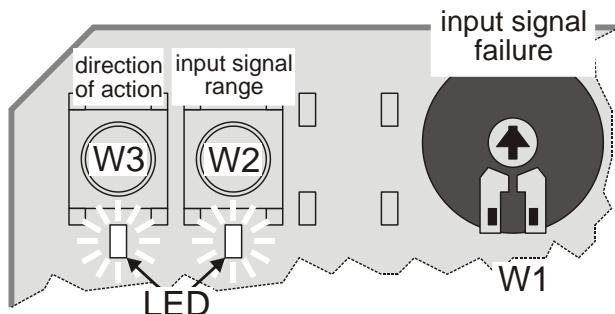

Fig. 1. Pushbuttons and potentiometer (default positions)
\* Factory setting; can be reversed by pressing the pushbutton (W3) located on the PCB (see Fig. 1).
The direction of action can be reversed by pressing the left-hand pushbutton (W3) located on the printed circuit board (see Fig. 1). If the corresponding LED is lit, this indicates that the actuator stem will retract at a control signal of 0(2) Vdc (factory setting); if it is dark, the actuator stem will extend at a control signal of 0(2) Vdc.
The range of the analog input signal Y can be changed by pressing the right-hand pushbutton (W2) located on the printed circuit board (see Fig. 1). If the corresponding LED is lit, this indicates that the actuator is set for 0...10 V operation (factory setting); if it is dark, the actuator is set for 2...10 V operation.
Using the potentiometer (W1) located on the printed circuit board (see Fig. 1), the actuator can be adjusted such that in case the signal input fails (due e.g. to a broken wire) or exceeds 12.5 V, the actuator will run to any pre-configured position between 0% and 100%. The factory setting is with the actuator stem in the central position (50%).